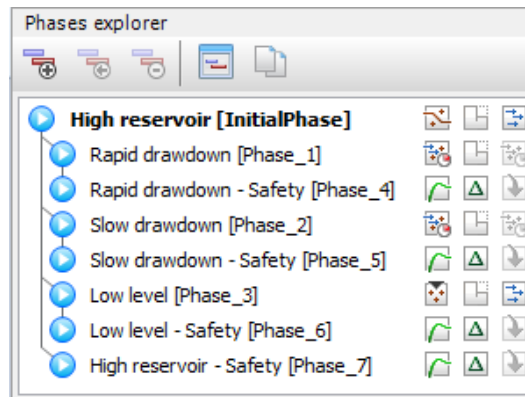

Figure 7–9: The final view of the Phases explorer
- The situation with a high (standard) reservoir level - See Figure 7–10 \(p. 145\).